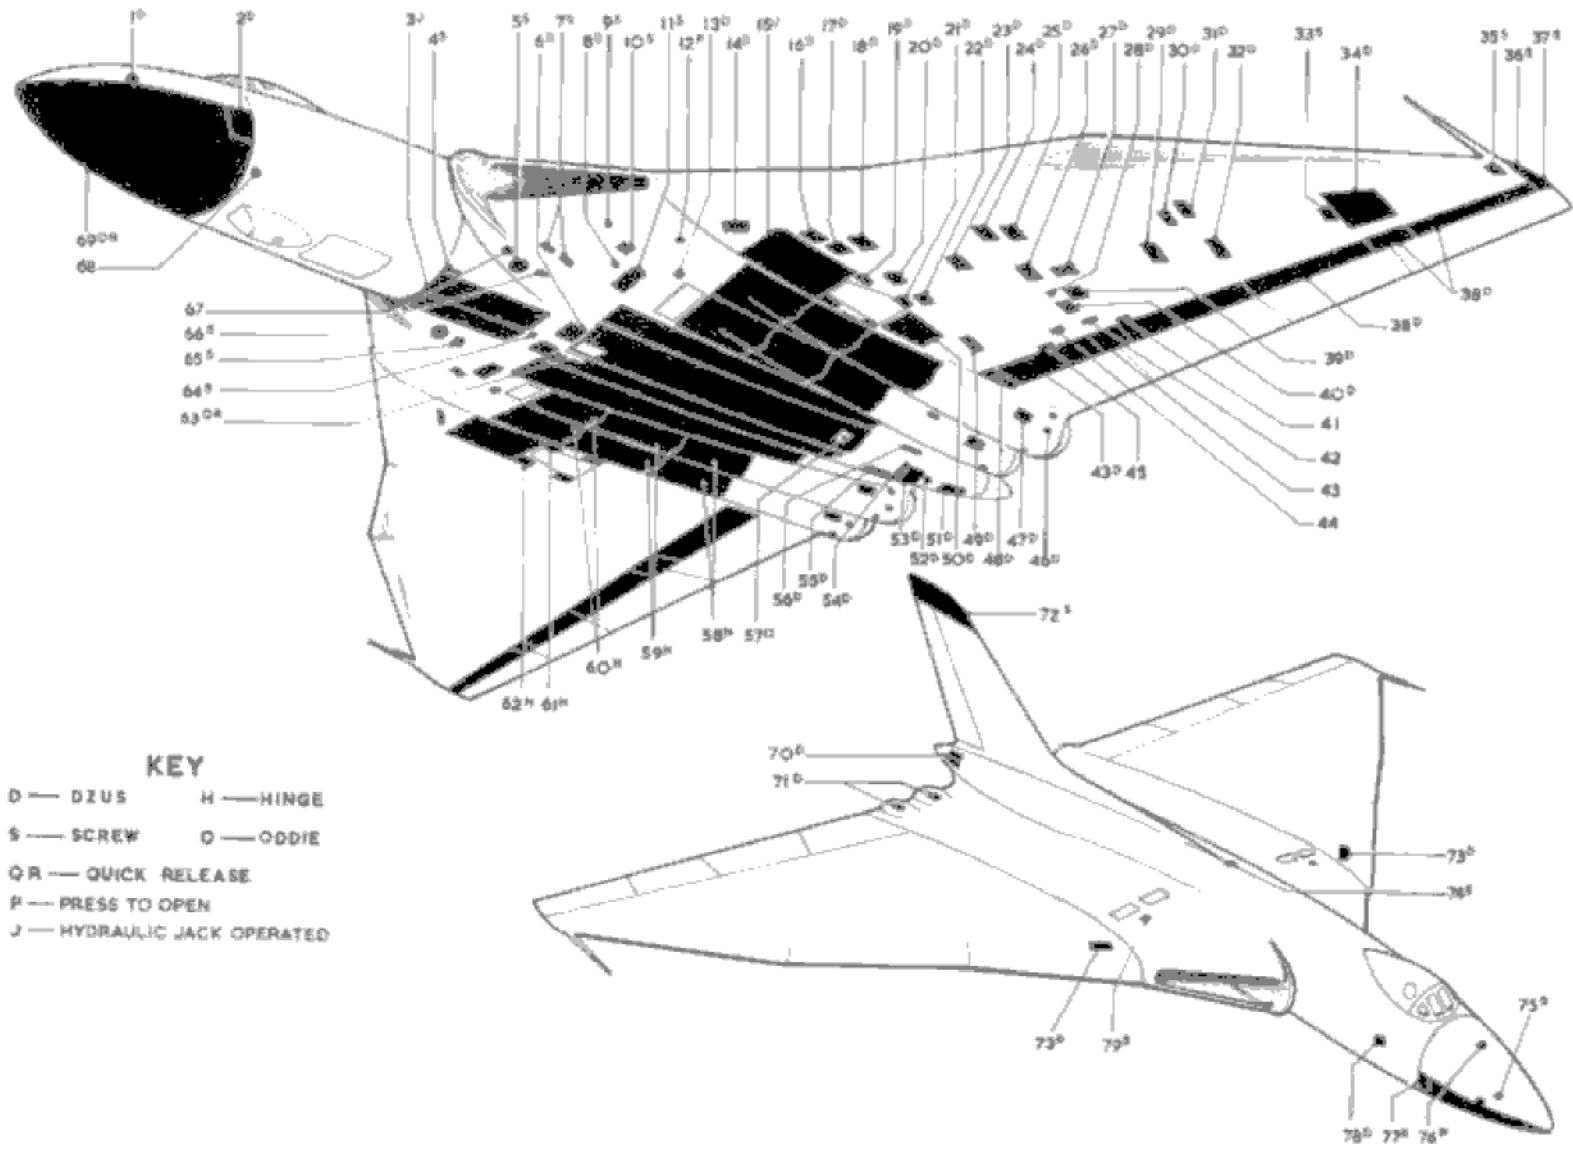

Fig.1. Access panels.
KEY TO FIG.1
3. Removable access panels and servicing doors are provided throughout the aircraft, the position of such panels is shown in fig.1.